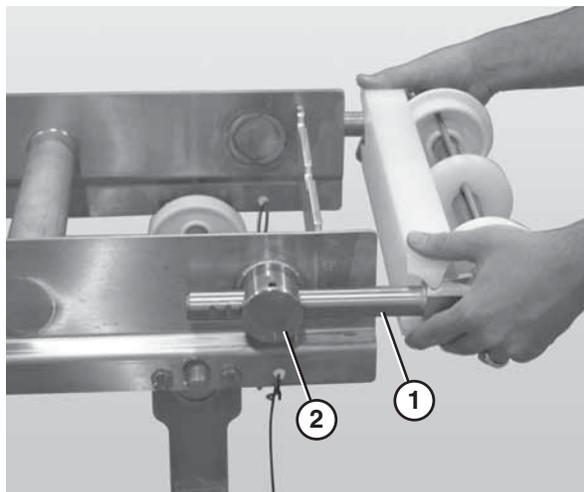

Figure 78
2. Slide the idler tail assembly (Figure 78, item 1) out of the take up blocks (Figure 78, item 2).